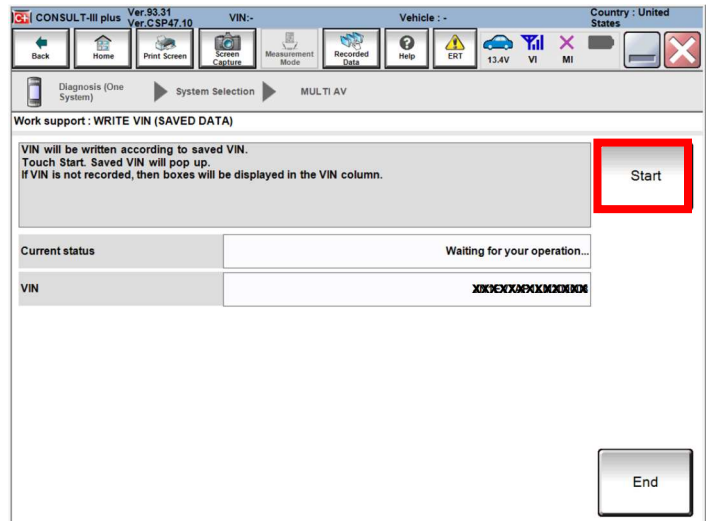

Figure 41
44. Select **Start** and wait for VIN to be written. (Figure 41)